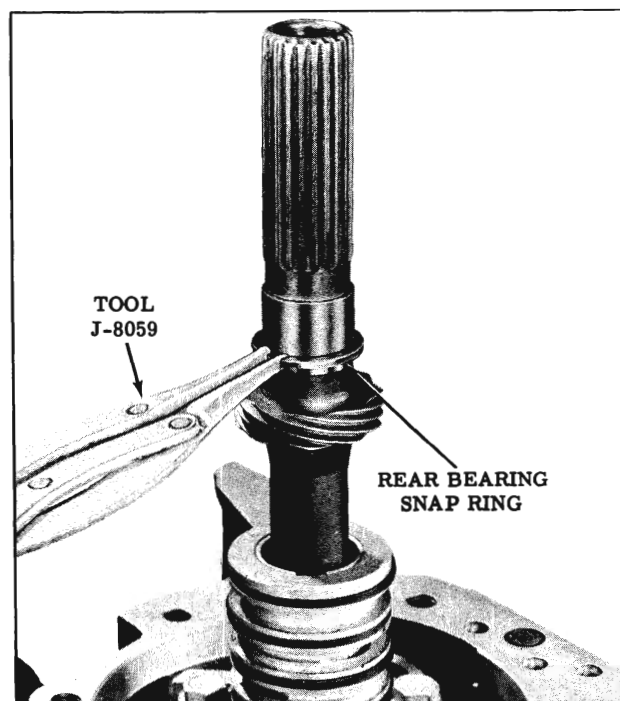

Fig. 3-232 Removing Rear Bearing Snap Ring
24. Remove the rear bearing to output shaft snap ring. (Fig. 3-232)